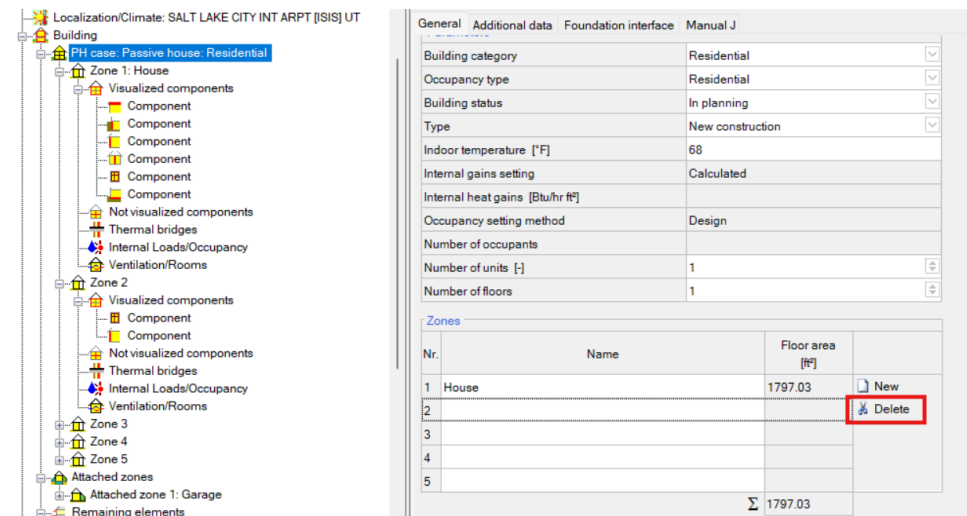

Figure 3.6. Deleting extraneous zones.
2. Then, delete all zones except Zone 1: under Building → PH case → General, click on each zone and click Delete (Figure 3.6).